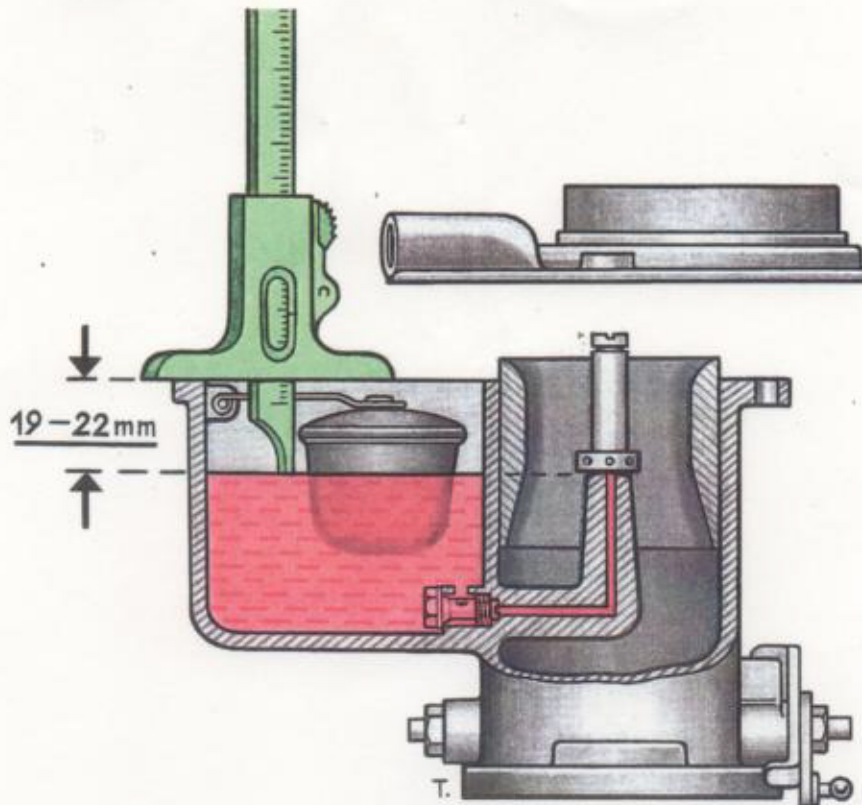

Fig. 15 Measuring Fuel Level with Depth Gauge
By fuel level is meant the height of the fuel in the float chamber as measured from the top of the chamber to the surface of the fuel (see Fig. 15).
- Take off the float chamber cover and measure the height of the fuel level at 3 points with a depth gauge as shown in Fig. 15. Do not hold the blade of the depth gauge too close to the wall of the float chamber.